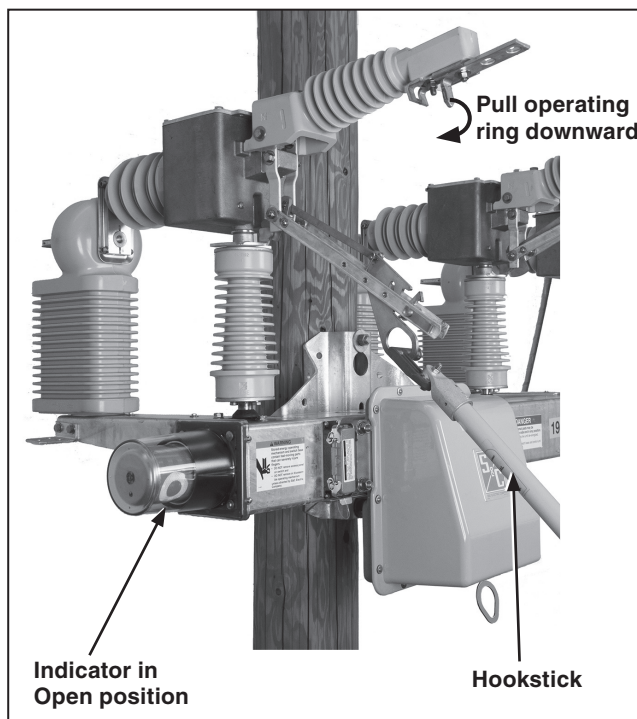

Figure 18. Open the disconnect by pulling the operating ring downward with a hookstick.
STEP 24. Open the disconnect by pulling down on the operating ring. See Figure 18. The latch will release and the disconnect can be pulled open. Disengage the hookstick from the operating ring. Repeat with the remaining two disconnects.